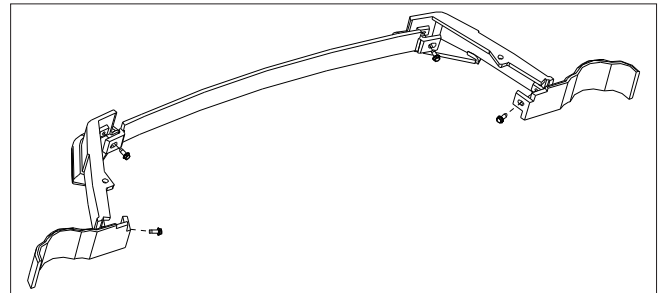

Figure 9: Assembling Cast Skirt.
1. Using a $\frac{3}{8}$ " socket or wrench connect the five (5) pieces of the skirt together with four (4) screws provided (see Figure 9). Do not completely tighten the screws; the screws should be loose enough that the cast pieces will be able to be adjusted but not fall apart.